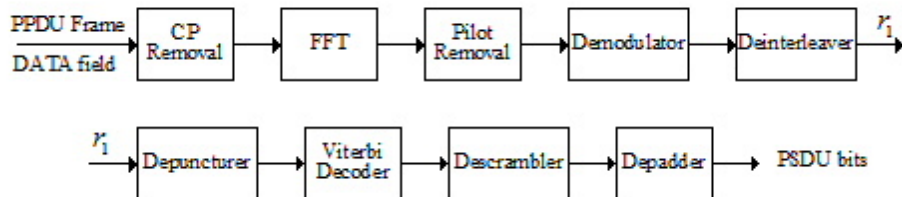

Fig. 1 Block diagram of the IEEE 802.11a baseband receiver (basic components)
1. This model can be used to remove the symbol cyclic prefix (CP) that the **cpadd11a** model added to the outputs of 64-point IFFT, according to *IEEE 802.11a* standard. For details, please refer to the **cpadd11a** model.
3. Fig.1 shows a block diagram of the IEEE 802.11a baseband receiver (basic components).